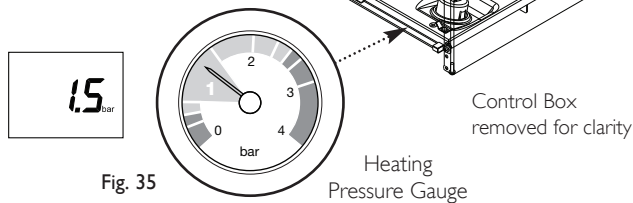

Fig. 35
- Pressurise the system to 1.5 bar (Fig. 35) then close and disconnect the filling loop.